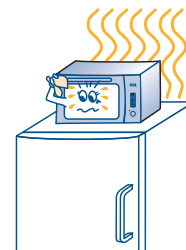

fig. 8
**N.B. The appliance must not be placed on or near sources of heat (for example on the refrigerator) (fig. 8).**